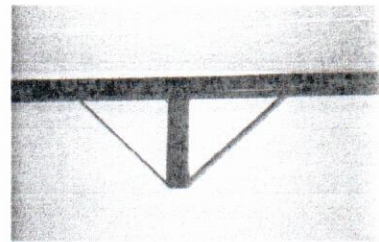

FIGURE 1
1. Start with auto body on jack stands 18" - 20" off floor (Figure 1). Pg. 20
- For most unbody cars from the 60's to the present, combine figures 1 and 3.
- For most full frame cars with body spaced 4" off frame, combine figures 1 and 4.
- For body, frame and suspension, combine figures 1 and 3.
- For body only, the Body/Frame Stiffener is required. Combine figures 1 and 4. then install Stiffener under body.